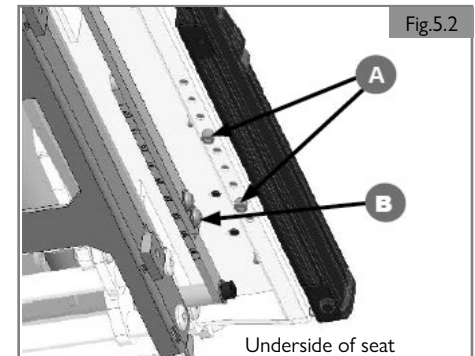
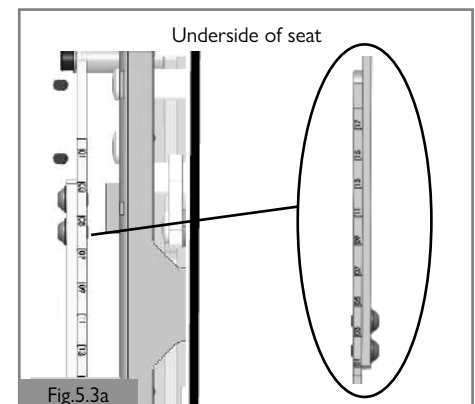
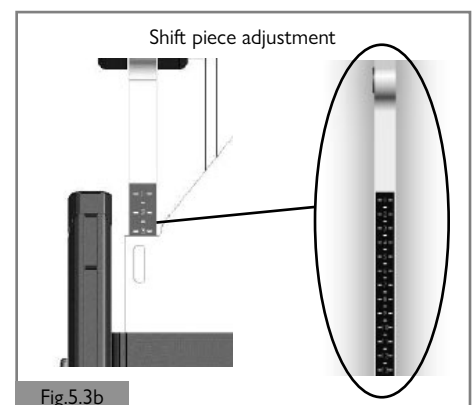

Fig.5.2
Fig.5.3a
Fig.5.3b
5.3 Set seat depth (Fig. 5.2, Fig. 5.3a, and Fig. 5.3b)
2. Remove the 2 screws (A) on the bottom of the double tilt module.
3. Remove the two screws (B) from the armrest linkage.
5. Align the back so it is lined up with a number on the shift piece. Align the end of the armrest bar to the same number and reattach the bolts. (Fig. 5.3a and 5.3b)